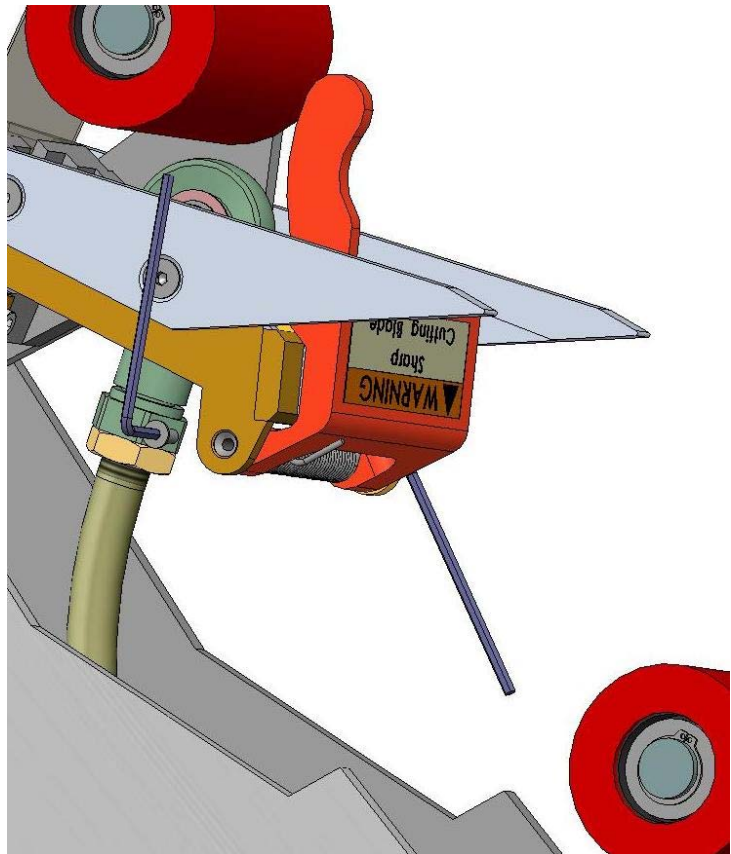

Figure 10-20
1. Apply some Blue Loctite to the threads of the M3 screw and fasten to the end of the cross shaft. Tighten using two 2mm hexagonal keys as shown in Figure 10-20